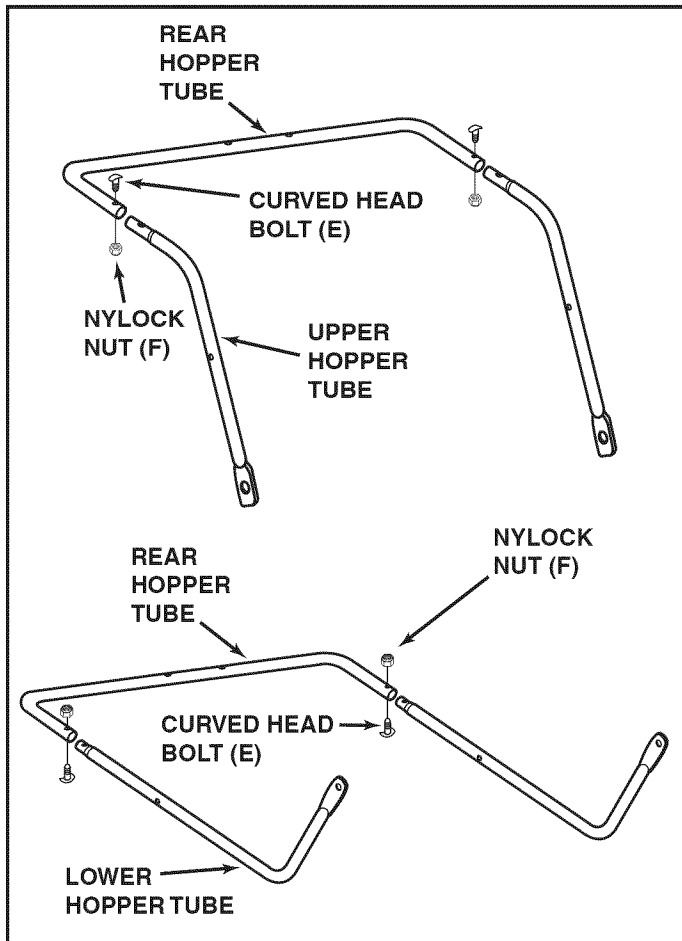

FIGURE 10
- If the tractor hitch is 10" or more above the ground, assemble the hitch brackets as shown in figure 10. Insert two hex bolts (B) through the brackets, with the rear hex bolt between the cross bolts in the hitch tubes. Secure the hex bolts (B) with two nylock nuts (G). **Do not tighten yet.**
- Assemble the two spacers (I) onto the hitch pin (N) and secure the pin with the hairpin cotter (M).
## STEP 12: (SEE FIGURE 10)